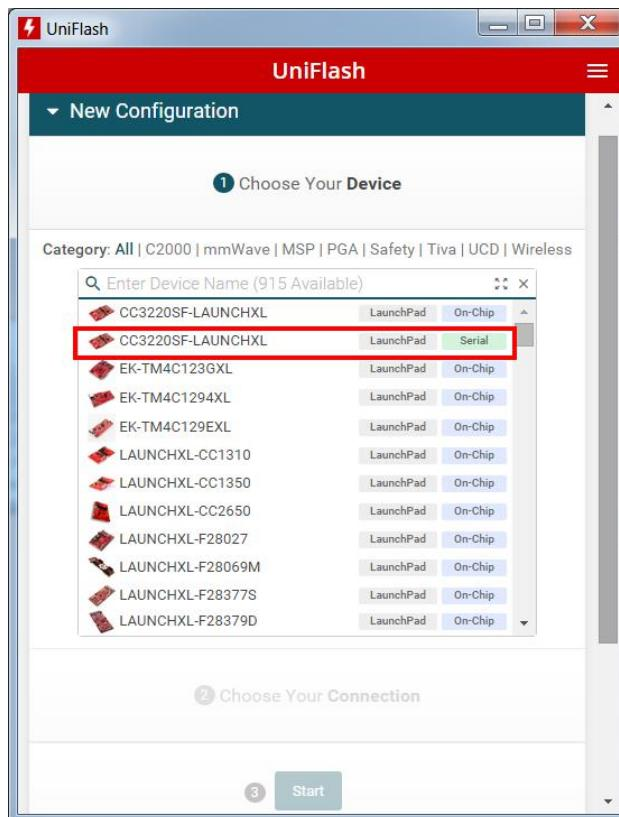

図 8. Choose Device: CC3220SF
2. On the *Choose your Device* section select CC3220SF-LAUNCHXL, and make sure to select the *Serial* option and not *On-Chip* as shown in 図 8. Click on the *Start Image Creator* button.